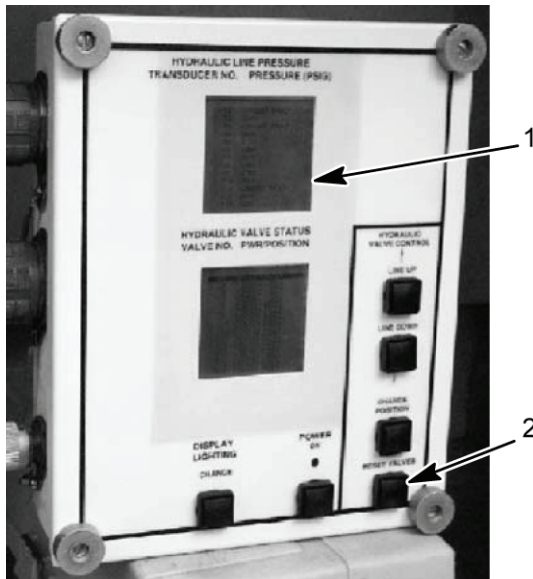
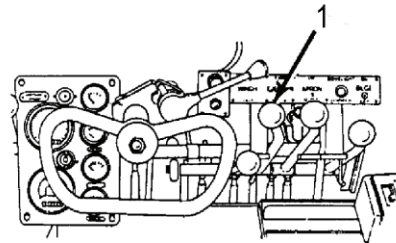

Figure 17. HDC Control Box
Figure 18. Ejector Control
- Reset all HDC solenoid valves by selecting the RESET VALVES button (Figure 17, item 2) on the HDC control box.
- Have assistant start engine and actuate EJECTOR CONTROL lever (Figure 18, item 1) to BACK position. Read transducer T-2 hydraulic pressure on the HDC display (Figure 17, item 1). Pressure should be 3,950–4,050 psi (27,235–27,925 kPa).